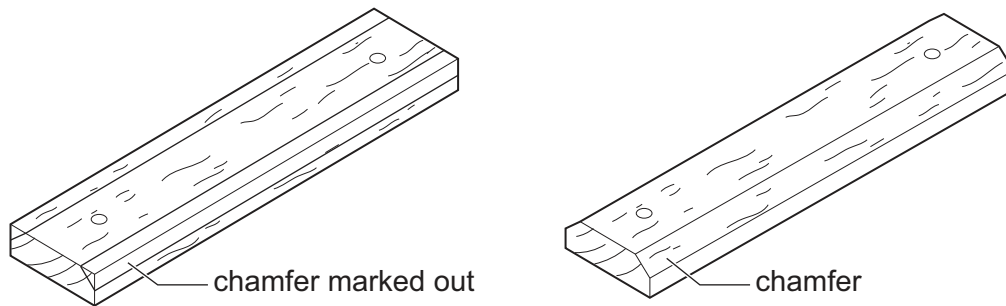

Fig. 13.2
- (c) Fig. 13.2 shows a chamfer marked out on the base of the menu stand and the completed chamfer after the waste wood has been planed off.